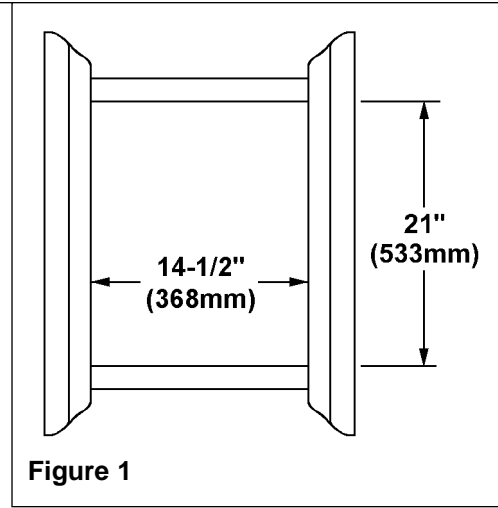

Figure 1
1. Rough-in wall opening to the dimensions shown in Figure 1.